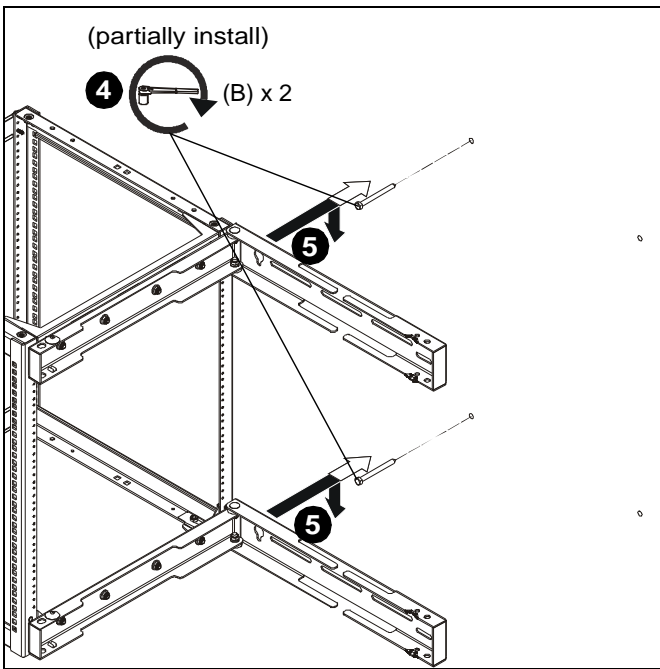

Figure 3
4. Partially install two 5/16" x 3 1/2" lag bolts (B) into holes on the side where the teardrop mounting holes will be used. (See Figure 3)
5. Hang two swing arms (A) onto partially installed bolts. (See Figure 3)